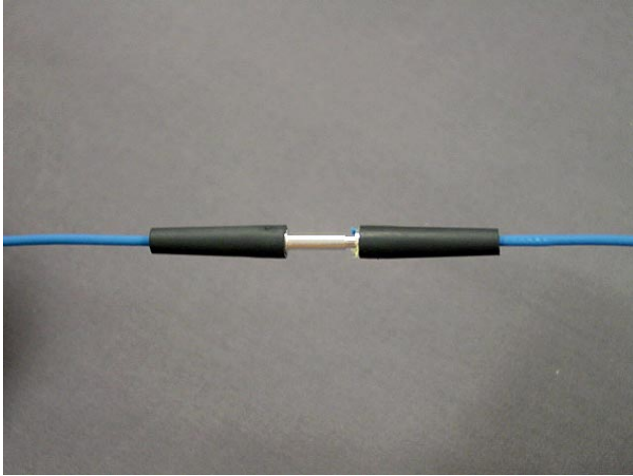

Figure 91
18. The 2.0 mm [.079 in.] jacketed cable termination is now complete. See Figure 91.